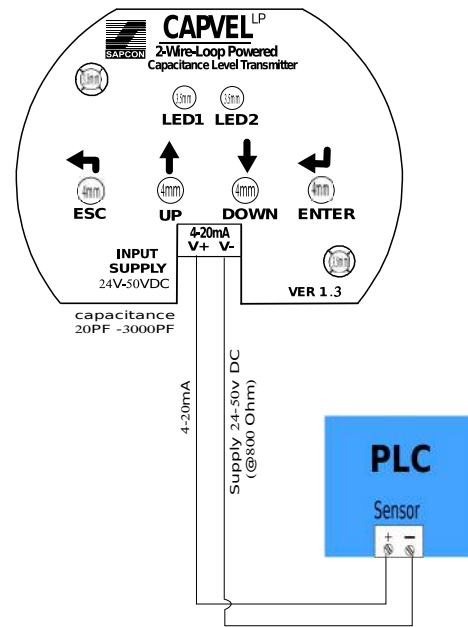

Figure 11: 4-20 mA Connections(Active PLC)
1. Connect the PLC's + and - to PUT 1 and 2 respectively.(Refer fig 11)